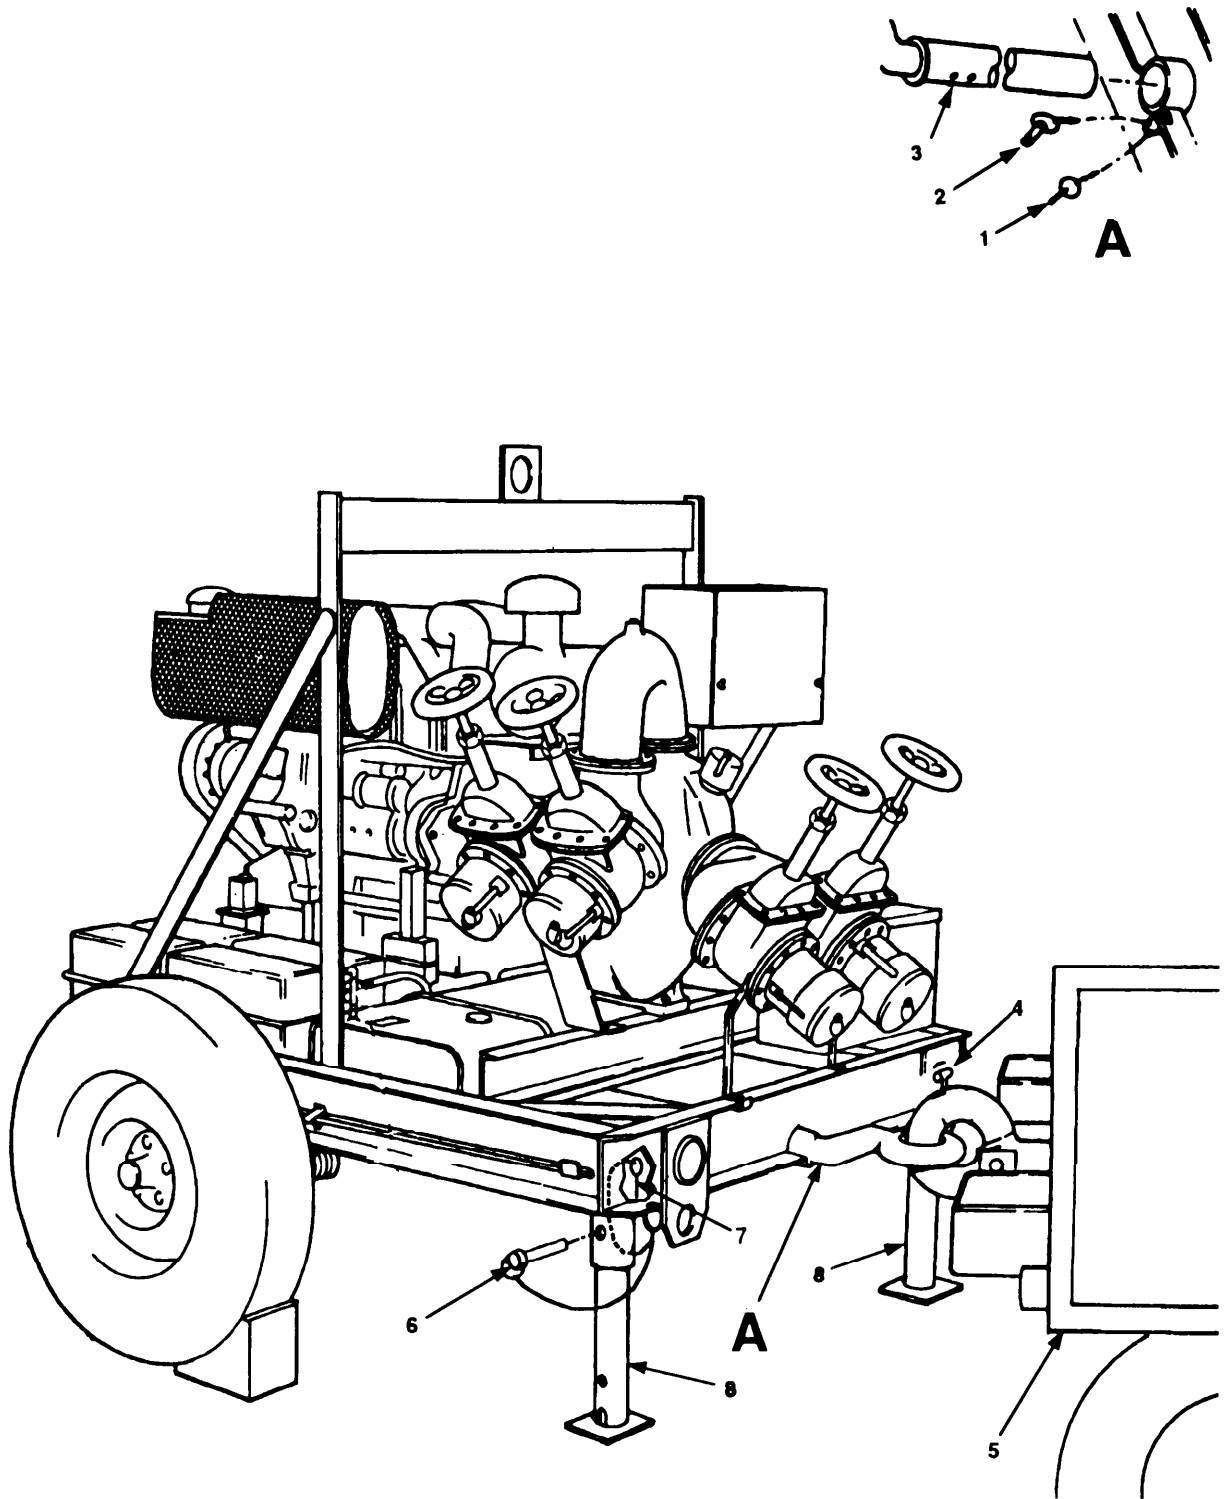

Figure 2-9. Preparation for Movement.
- d. Remove quick release pins (1 and 2, figure 2-9) from tongue and extend tongue extension (3) to full length.
- f. Release pintle (4) and connect pumping assembly to towing vehicle (5).
- h. Remove pins (6 and 7) and push upward on trailer support legs (8) until holes align with mounting holes for pins (6 and 7).
- i. Reinstall pins (6 and 7) to secure trailer support legs (8).